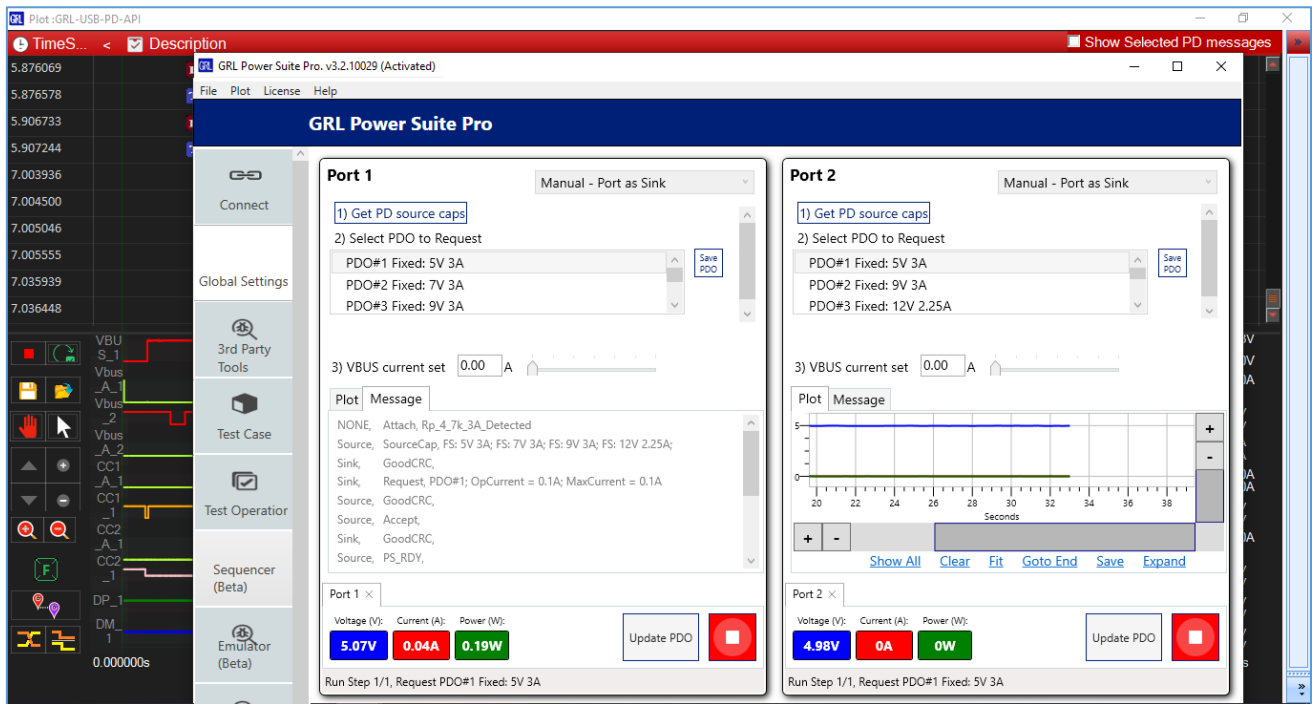

FIGURE 2.24: GRL-PSP ADVANCE PLOT VIEW EXAMPLE
- **Advanced Plot Sub Sampling Ratio Value & Sub Sample Resolution** – To set the sub sampling ratio value and sub sample resolution for the **Advance Plot** feature from the **‘Plot’ drop-down menu** above the GRL-PSP. Set the Advance Plot to acquire samples when running tests using a sub sampling ratio value from 1 to 3000 with a low, medium or high sub sample resolution. See Figure 2.24 on page 21 for more details on the Advance Plot feature.